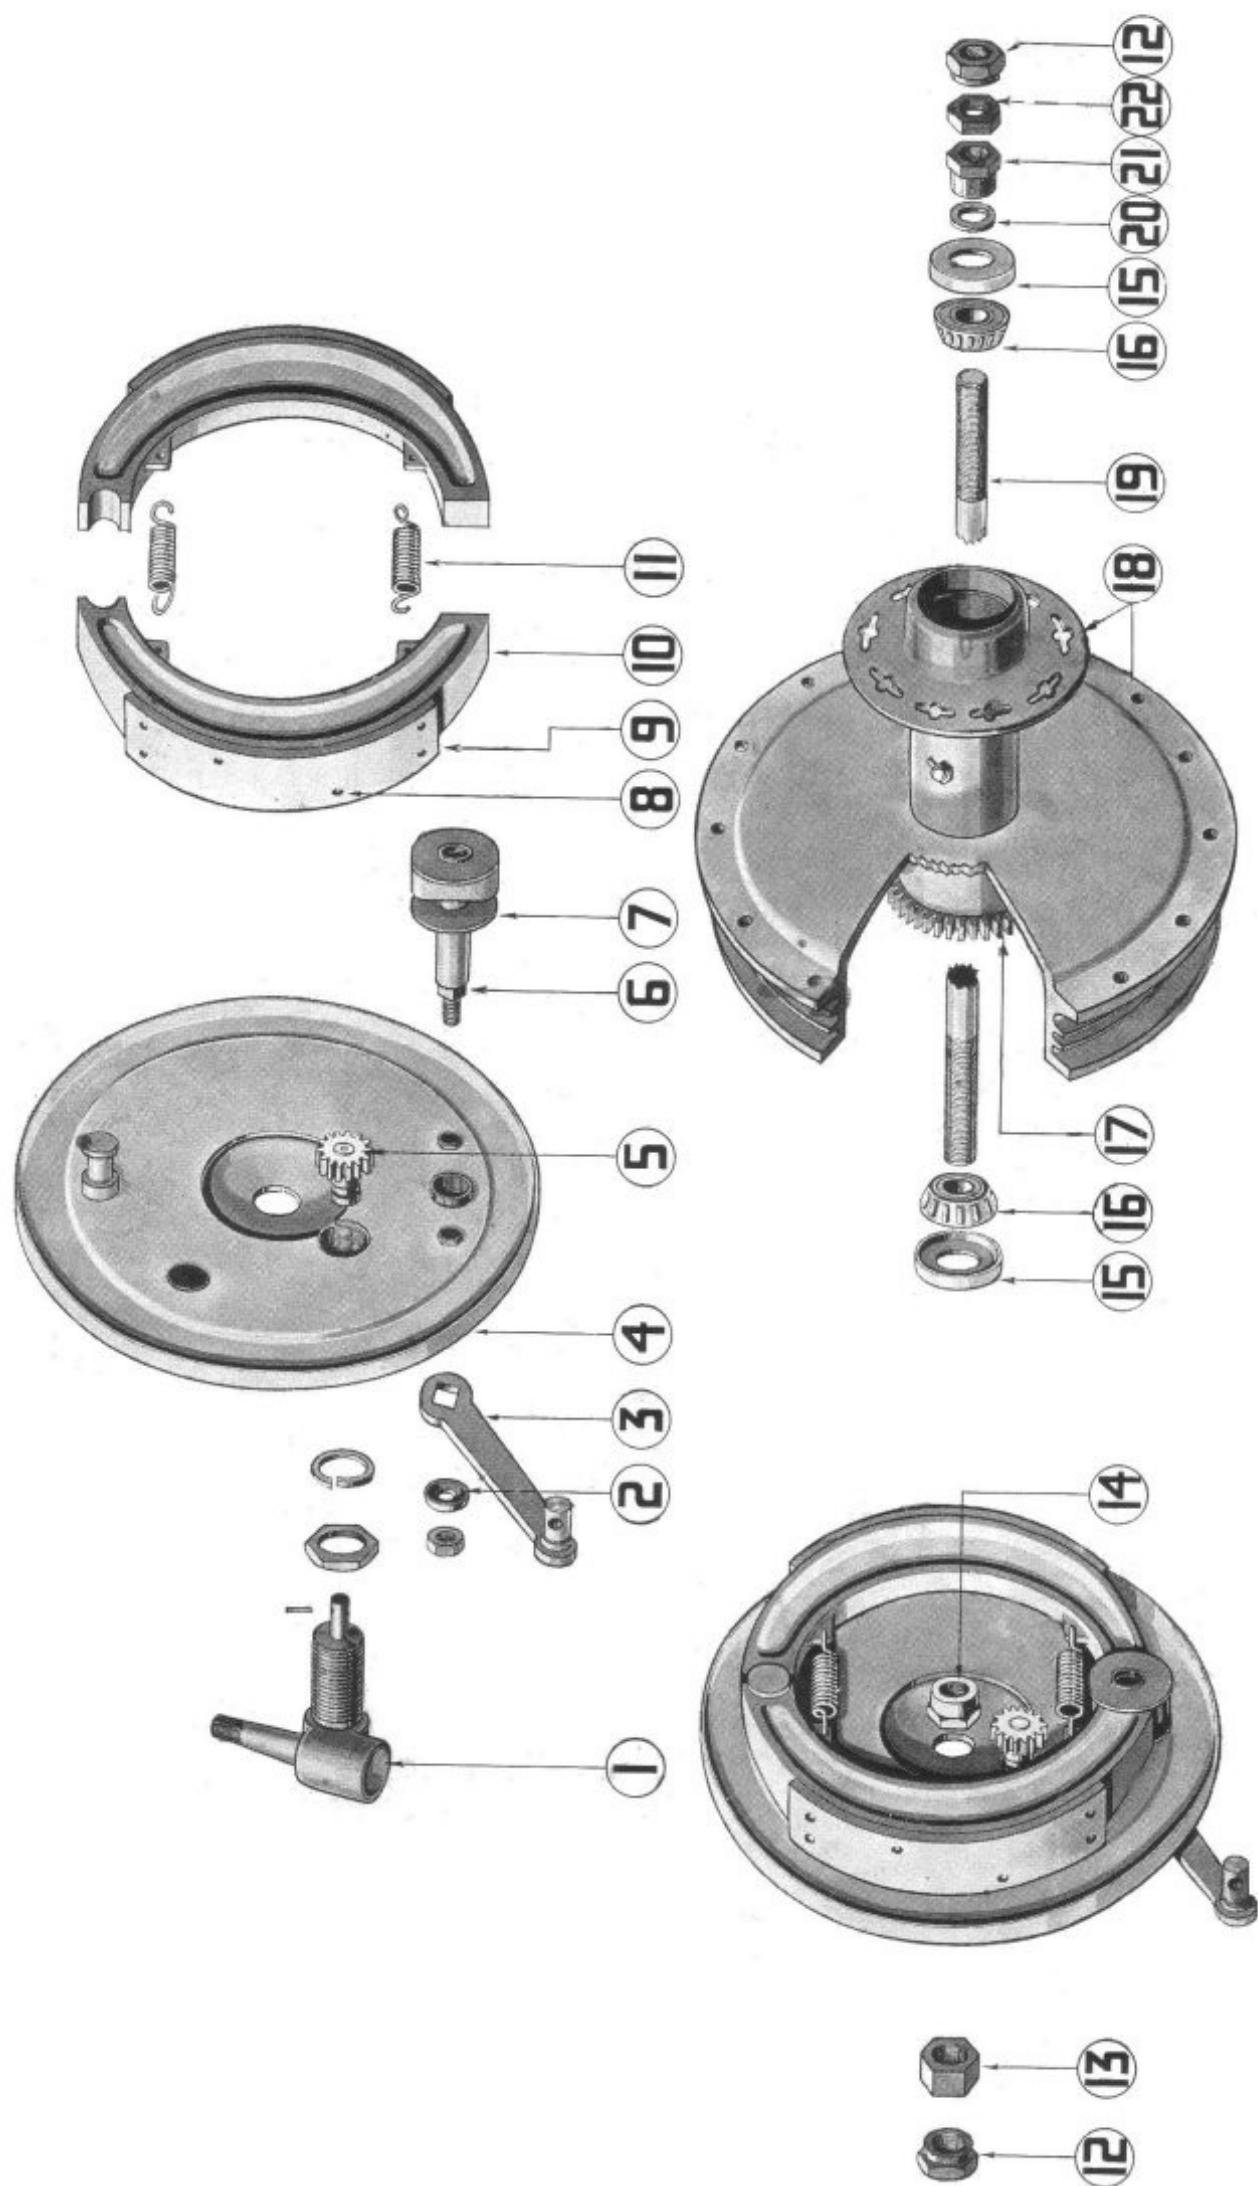

Fig. E2. Exploded View of Front Hub and Brake Assembly.
2. Removal of Brake (See Fig. E2).
3. Removal of Bearings (See Fig. E2).
NAMES OF PARTS IN FRONT HUB and BRAKE ASSEMBLY, Fig. E2.